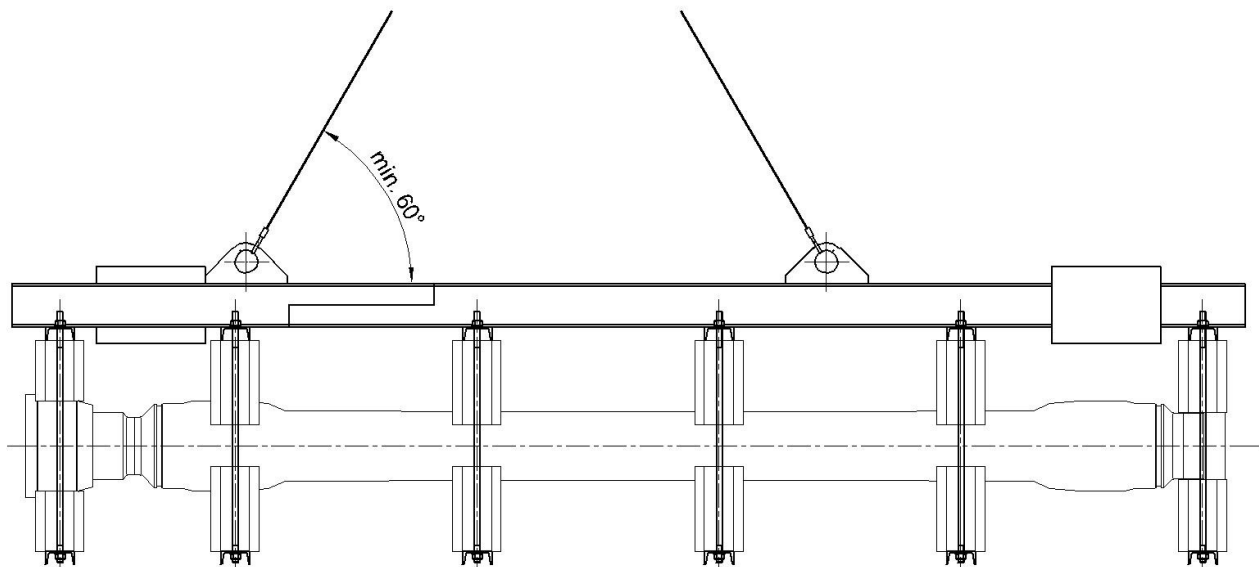

Figure 8
- Lift using the hoisting points on the lifting beam with minimum 60° rope-angle (Refer to Fig 8)